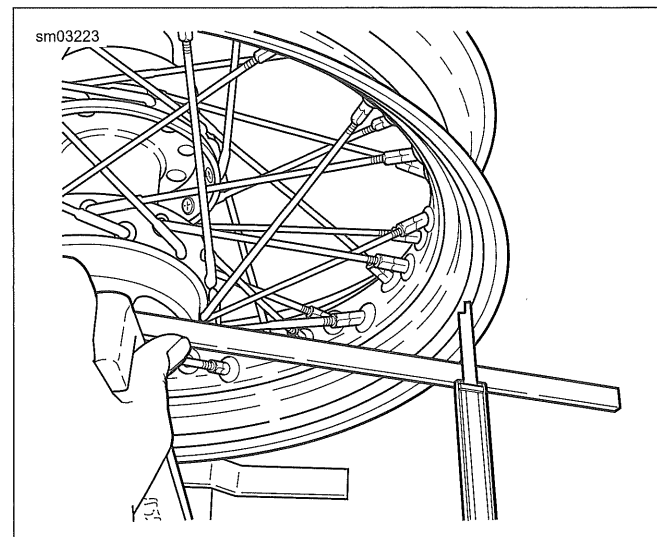

Figure 3-17. Checking Wheel Hub Offset Dimension (Typical)
2. See Figure 3-17. Mount wheel in WHEEL TRUING STAND (PART NUMBER: HD-99500-80) so hub turns freely on its bearings.